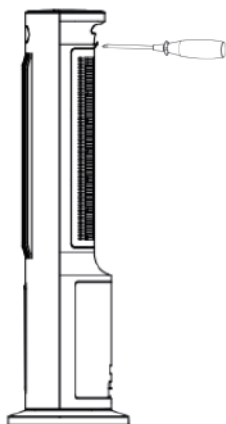

Fig.1
1. As shown in Fig.1, open the water tank flap at the top of the appliance first, and then slowly add water from the upper water tank, do not add too fast in order to prevent the water from overflowing to the electrical components inside the appliance quickly, which may cause a dangerous situation. Stop adding water when the water level reaches to the "max" line.